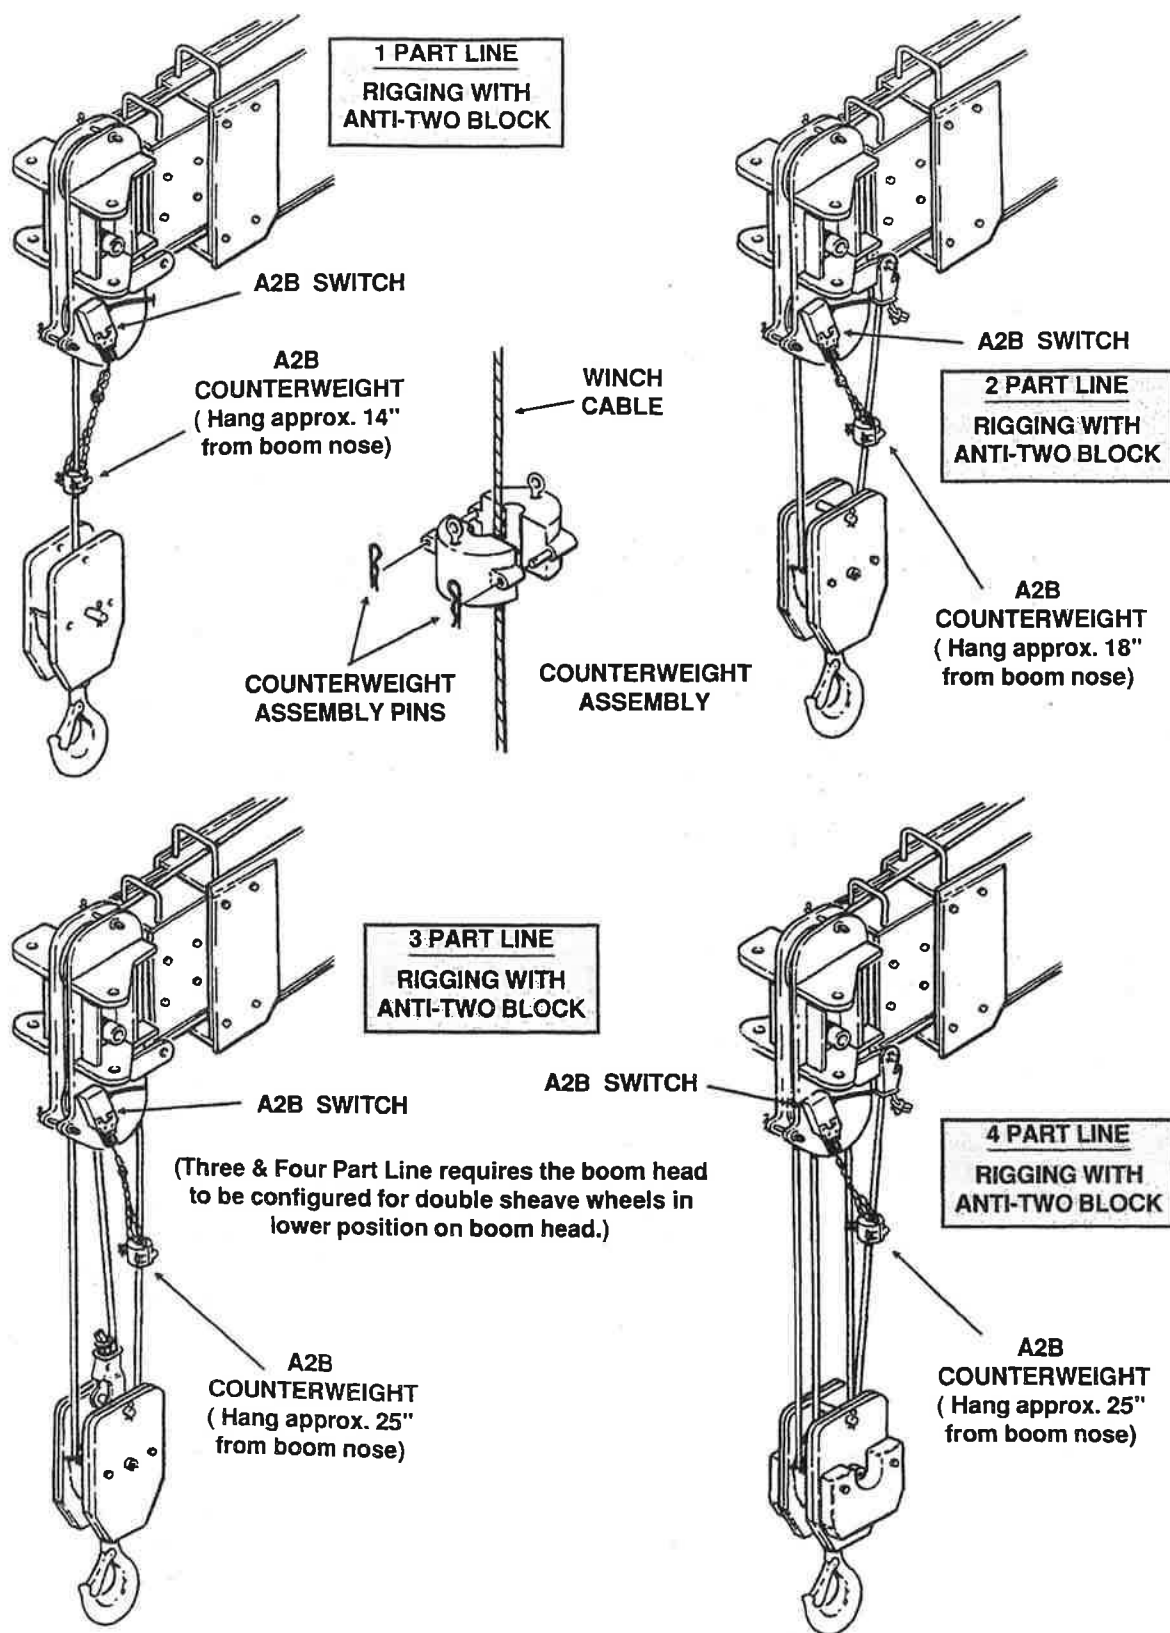

Figure 3-3. Anti-Two Block Installation.
10. Anti-Two Block Device (See Figure 3-3.)